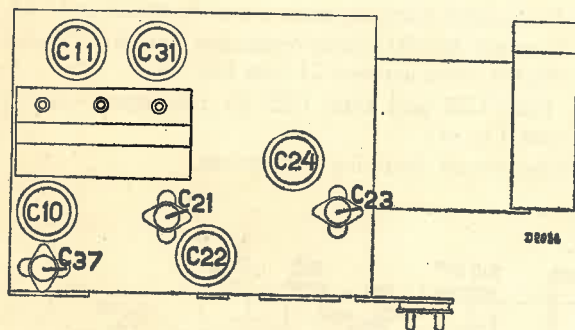

Fig. 4.
6. Trim C24 and then C21 for maximum output (see Fig. 4).
9. Trim C23 and then C22 for maximum output (see Fig. 4).
6. Trim C31, C11, C10, C31, C11 for maximum output in that order (see Fig. 4).